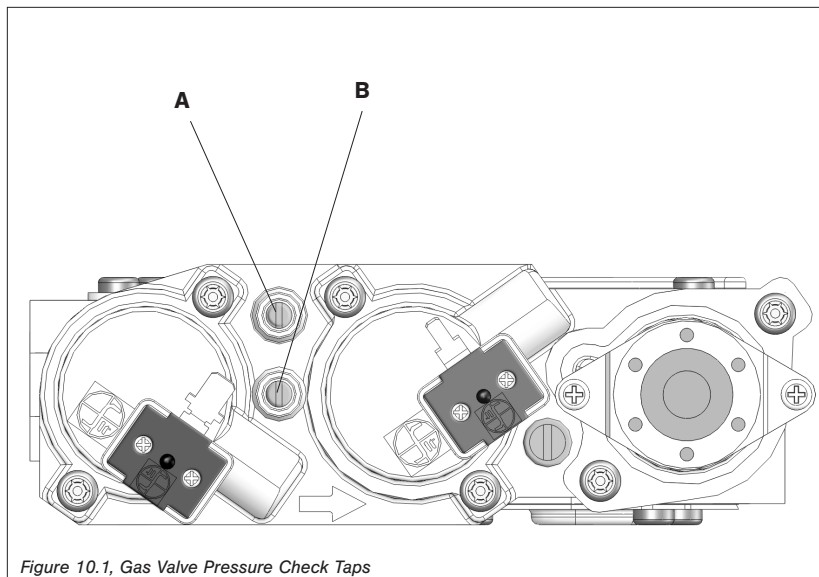

Figure 10.1, Gas Valve Pressure Check Taps
1. Loosen the inlet (IN) pressure tap by turning screw counter-clockwise. See (A) in Figure 10.1, Gas Valve Pressure Check Taps.
5. Disconnect hose and tighten the inlet (IN) pressure tap by turning screw clockwise. Screw should be snug. Do not over tighten.
6. Relight pilot and burner. Then reattach manometer to the inlet pressure tap (A) to verify the tap is completely sealed. Manometer should read no pressure.